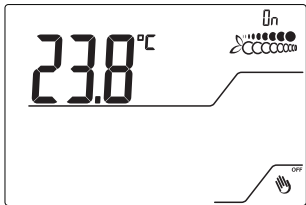

Fig.12
5.2 Press for 4 seconds  to switch-on the thermostat. The display shows ON for 3 seconds. Fig.12